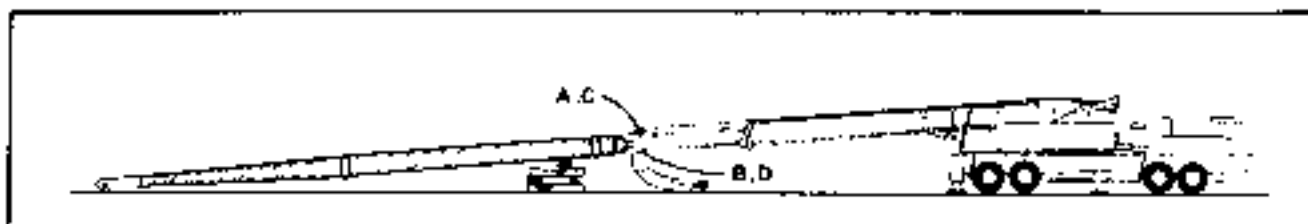

Fig. 4-37
- Pin the jib sections together on the ground. Position the assembled jib on blocking directly behind the machine as shown in Fig. 4-37. The bottom lugs at "B" and
- (e) Boom down on secure and stable blocking as shown in Fig. 4-37.